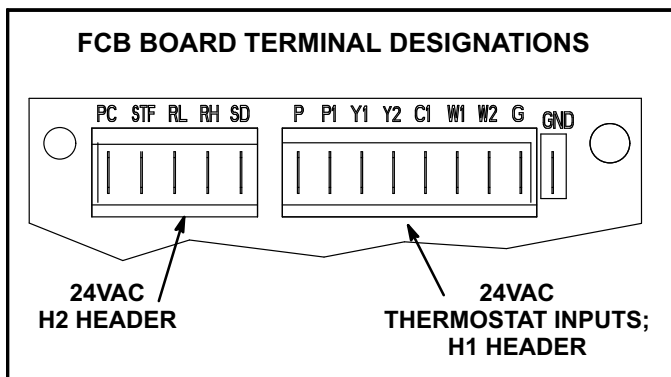

FIGURE 20
3. Check for 24VAC signal at the thermostat blower input (G to GND terminal). See figure 20.